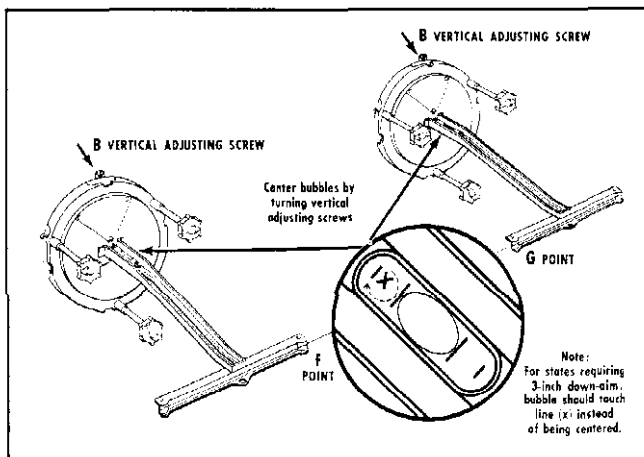

Fig. 12-63 Vertical Adjustment
a. Center bubble by turning vertical adjusting screw B (Fig. 12-63). (To insure proper location, back screw out until bubble is at end of vial. Then